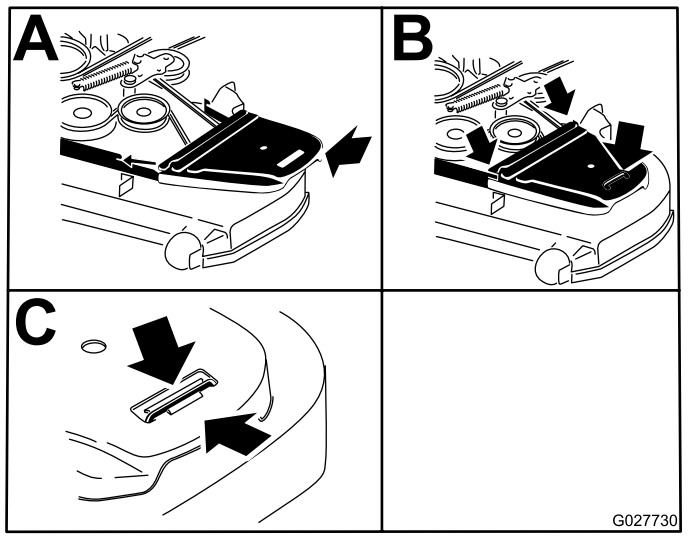

Figure 73
13. Install the belt covers (Figure 73).